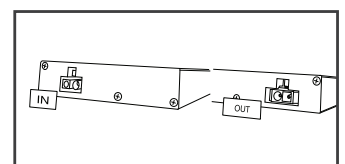

Figure 2
- Input Panel Cover can be removed to plug in 5' Power Cord for connection to 120V polarized outlet. The 12" linking Cord is used to link fixtures together. The Output Panel Cover can be removed to plug in the other side of the 12" linking Cord to link fixtures together. See Figure 2.
Attach fixture to cabinet or wall by tightening screws securely. Insert screw plugs for a clean installation. Connect 5' Power Cord to the Input port after removing Input Panel Cover. (See Figure 2). Plug in Power Cord to a 15A circuit grounded outlet. **Warning: Do not conceal power supply cord inside a wall, ceiling, soffit, kitchen cabinet, or similar permanent structure. Do not run the power supply cord through holes in walls, ceilings or floors.**